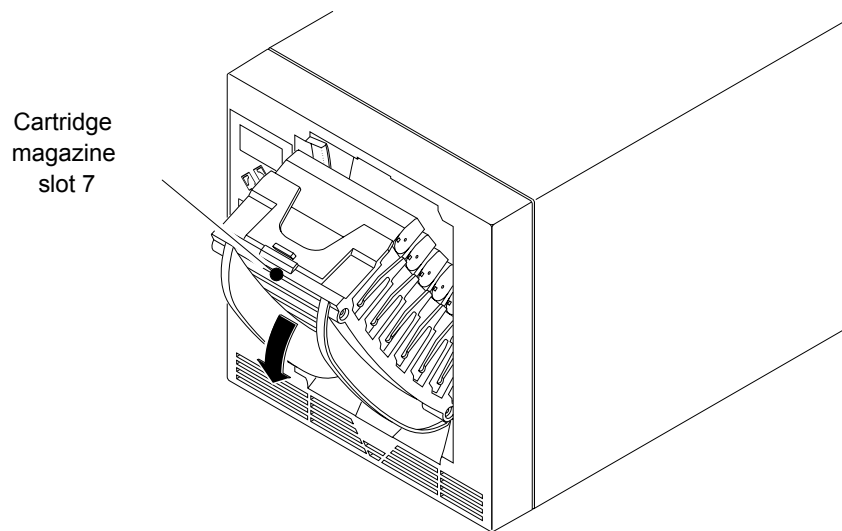

Figure 2-1 *Removing the cartridge magazine*
1. Remove the magazine by grasping it at the top (near cartridge slot 7) and pulling out, as shown in **Figure 2-1**.